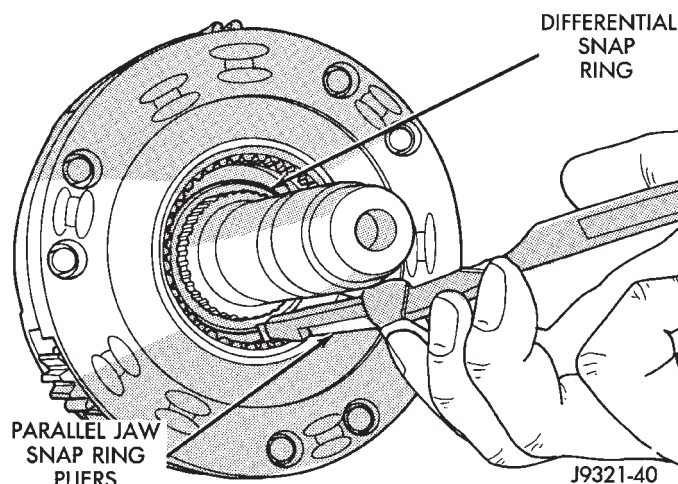

Fig. 40 Disengaging Differential Snap Ring
(4) Disengage snap ring that retains differential on mainshaft (Fig. 40). Work snap ring upward until clear of gear teeth and ring groove.